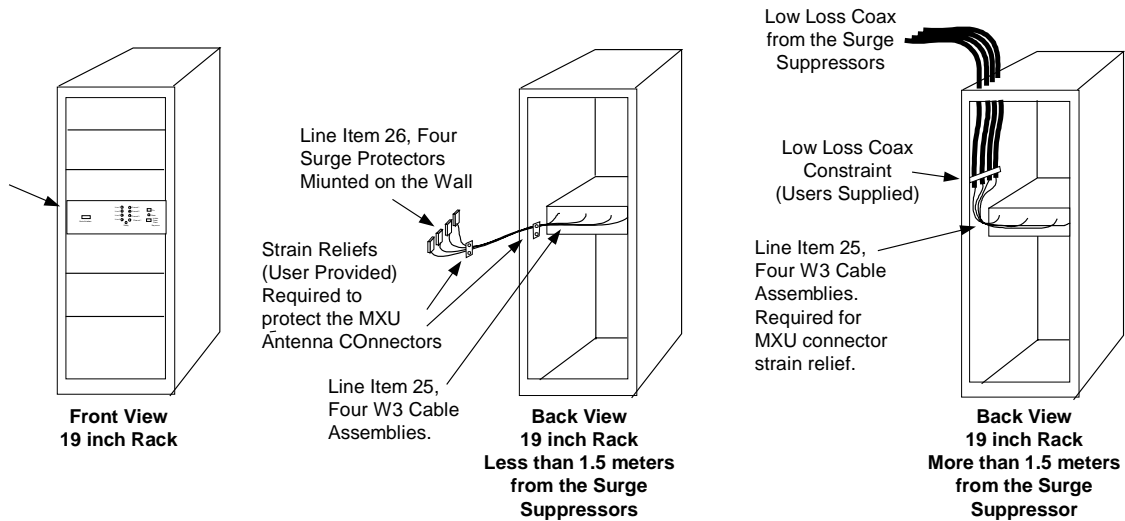

Figure 4.1-1: Console Mounting
The NOMAD MXU is designed to be mounted in a standard 19 inch rack as illustrated in left front view of figure 4.1-1. Slides, shelves or supports to mount the MXU in a rack are not included in the MXU package.
Interconnection of the antenna to the NOMAD MXU is covered in section 4.3.2; however, the location of the MXU console is directly related to the length of the cables supplied with the NOMAD MXU. If the back of the NOMAD MXU is mounted less than 1.5 meters from the surge protectors (Line Item 26), the standard W3 cables (line item 25) supplied with the MXU will work as illustrated in the center view of Figure 4.1-1. If the back of the NOMAD MXU is mounted more than 1.5 meters of the surge protectors, the user will have to procure custom cables as defined in Appendix "B" of this document and illustrated in the right view in Figure 4.1-1.